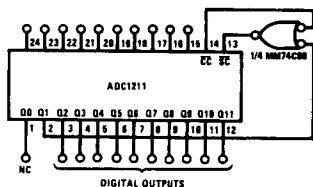

FIGURE 2. Short Cycling the ADC1211 to Improve 10-Bit Conversion Time (Continuous Conversion)
2.2 Short Cycle for Improved Conversion Time (Figure 2)